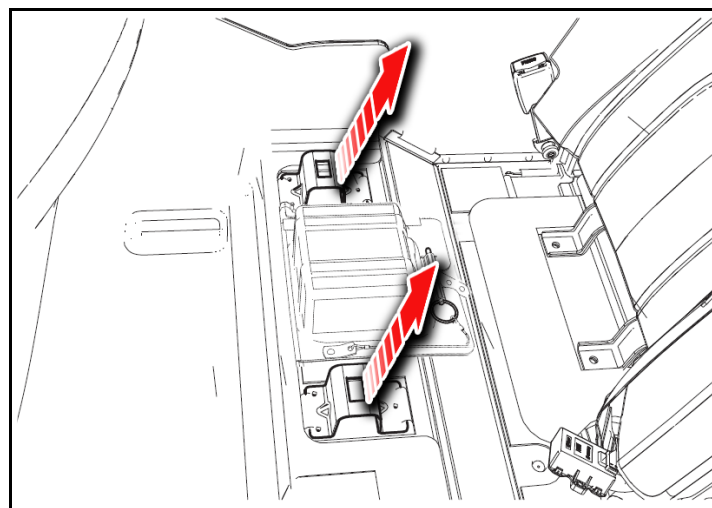

Figure 2A
2.2. Release clips (x2) from seat cushion leading edge by pulling sharply upwards (Figure 2A).